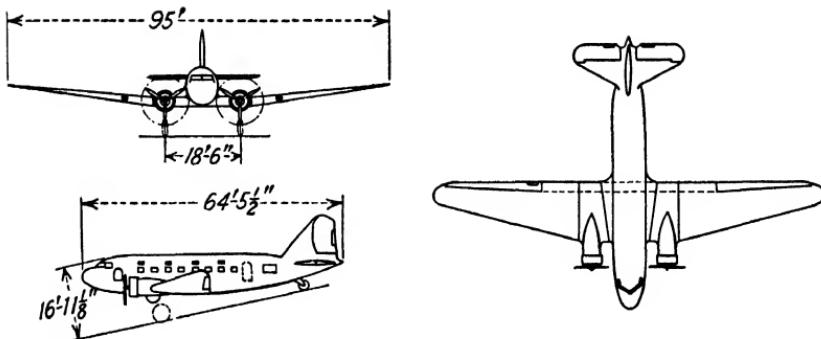

Fig. 172.—Douglas DC-3 24-place monoplane. (Courtesy of Aviation.)
- 2.** Find (a) the wing loading; (b) the power loading; (c) the aspect ratio; (d) the mean chord of the airplane in Fig. 172, which has the following specifications: